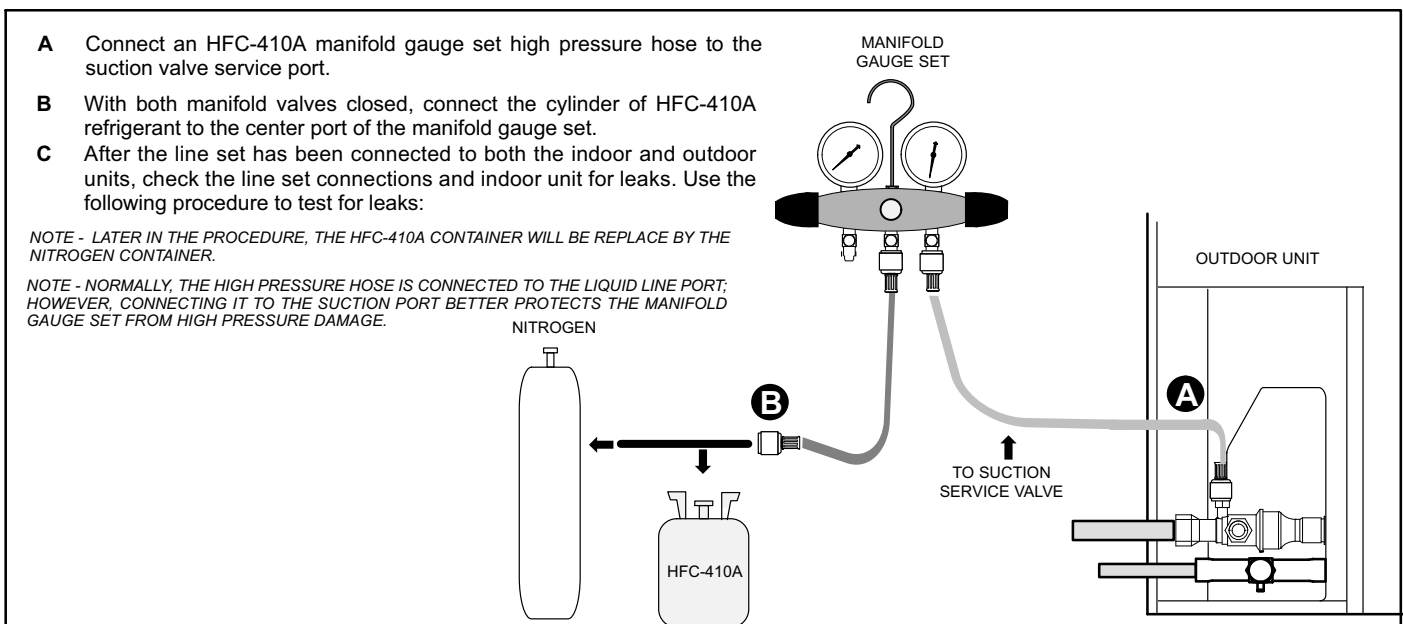

FIGURE 14
1. Connect an HFC-410A manifold gauge set as illustrated in figure 14.